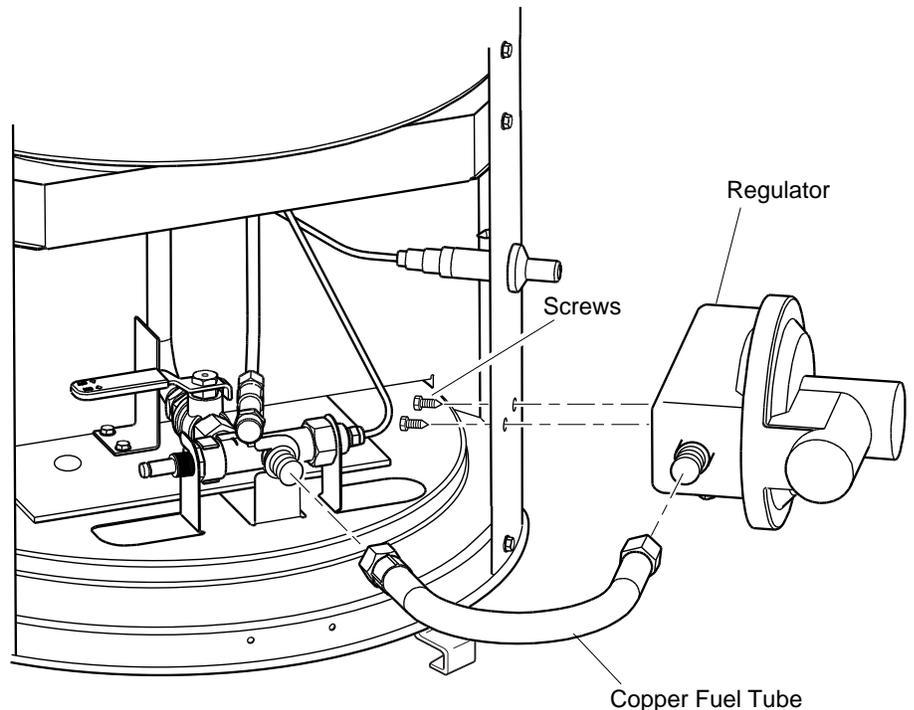

Figure 2 - Installing Regulator
2. Mount regulator to heater base below piezo ignitor button (see Figure 2). Use 1/4-20 screws from hardware bag to attach regulator to heater. Mount regulator so the outlet with male connector points toward the heater inlet.